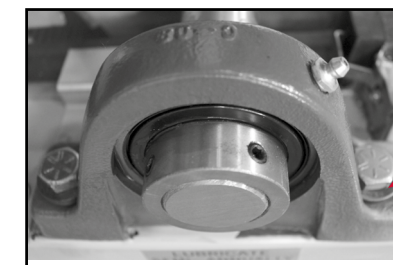

FIGURE 19. Inspect bearing collar to ensure all bolts and screws are tight.
- 5) Inspect the bearing bolts, rim bolts, and the Allen screws on the bearing collar to ensure that all are tight (See **FIGURE 19**). Tighten any loose screws and bolts according to torque values described in the **FLÄKTGROUP SEMCO ENERGY RECOVERY WHEEL OWNER'S MANUAL**.